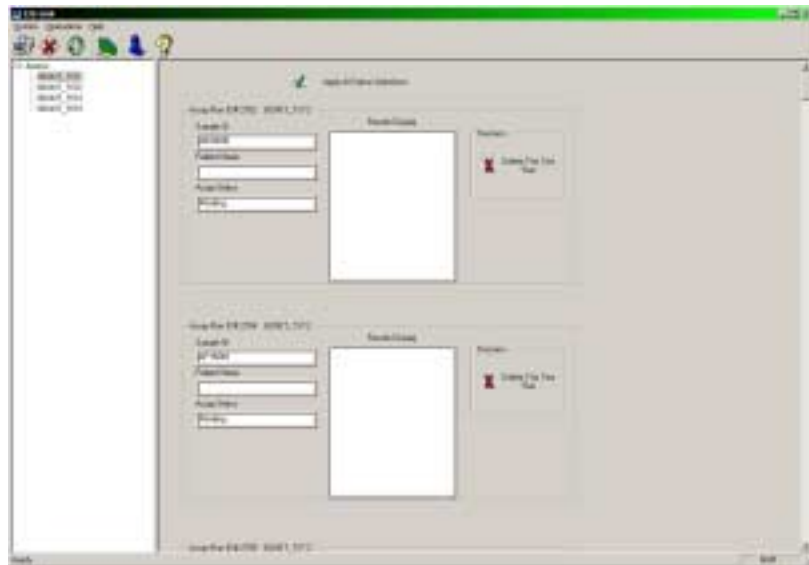

Figure 15 Pending Assays
2. Click on an assay to display pending test orders (Figure 15).